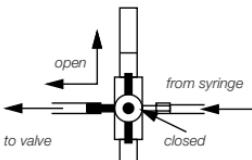

Fig. 10
- b) With the silicone tube immersed in the water bath, turn the three-way faucet so that the syringe is isolated from the manometer (see fig. 10).
- f) Carefully maintain a flow through the shunt and turn the three-way faucet as shown in fig. 10 to isolate the syringe. As soon as the three-way faucet is in the correct position, the water column should begin to drop. The syringe is now isolated from the valve and it is not necessary anymore to maintain its flow. Repeat steps b to f if the water column fails to drop.